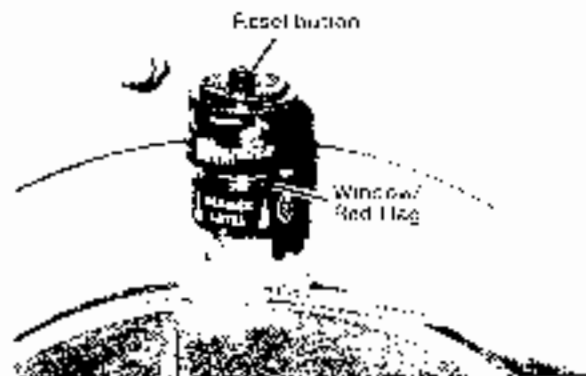

Figure 1 Service indicator
8. If equipped, check the service indicator daily (Figure 1) (dry-type air cleaners). The service indicator signals when to change the air cleaner element. The "red flag" in the window gradually rises to the top as the air cleaner loads with dirt. **DO NOT** service the element until the flag reaches the top and locks in place. When "locked", the flag will remain at the top when the engine is stopped. After changing the element, push the button to reset the indicator.